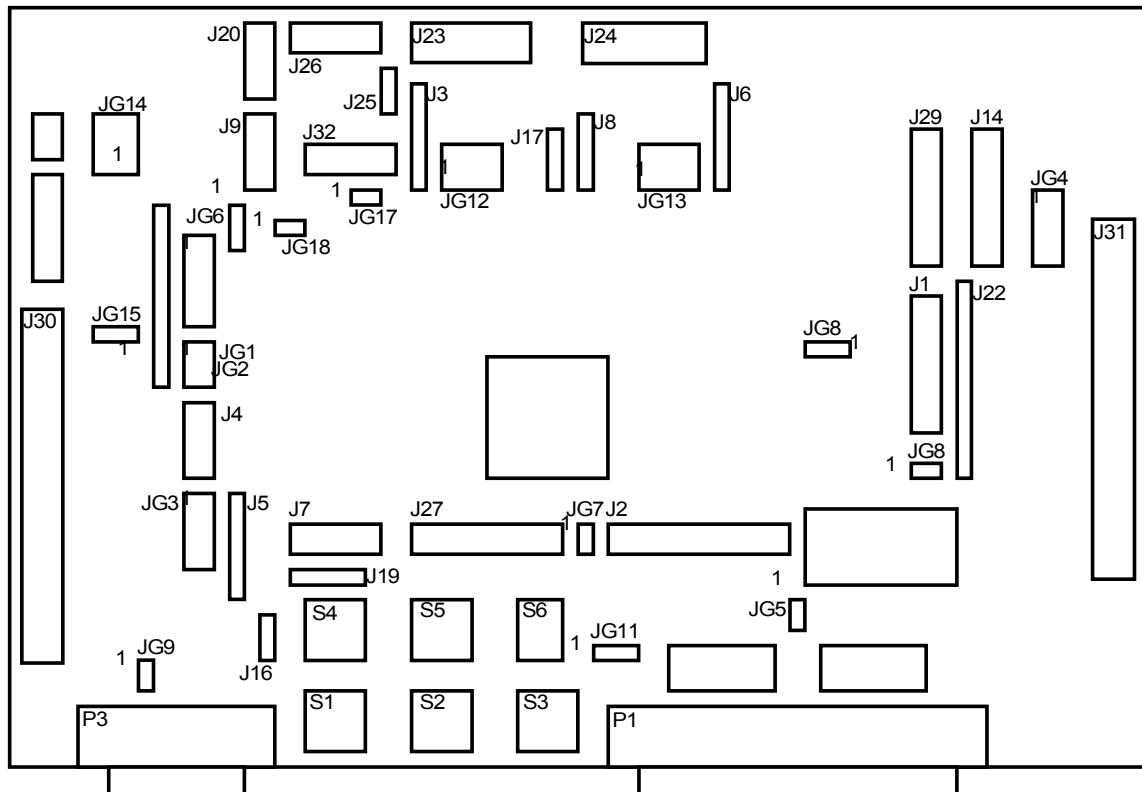

**Figure 2-2 Jumper JP201 on the 3-Phase AC BLDC Power Stage**
**Figure 2-1** illustrates the hardware set-up for the Digital PFC application, which requires a motor drive. The 3-Phase AC/BLDC High-Voltage Power Stage board contains the JP201 jumper that selects the power supply device. Pins 2 and 3 of the JP201 connection correspond to a simple rectifier-capacitor power stage. The PFC hardware set-up requires closing pins 1and 2 of the JP201 connection; see **Figure 2-2**.